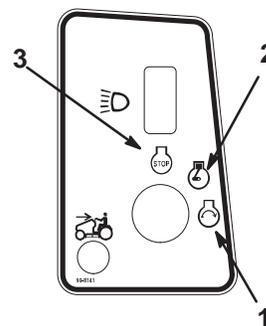

Figure 10
6. Turn the ignition key clockwise and hold it in the “START” position (Fig. 10). When the engine starts, release the key.
- Turn the ignition key to “OFF” and remove the key (Fig. 10).